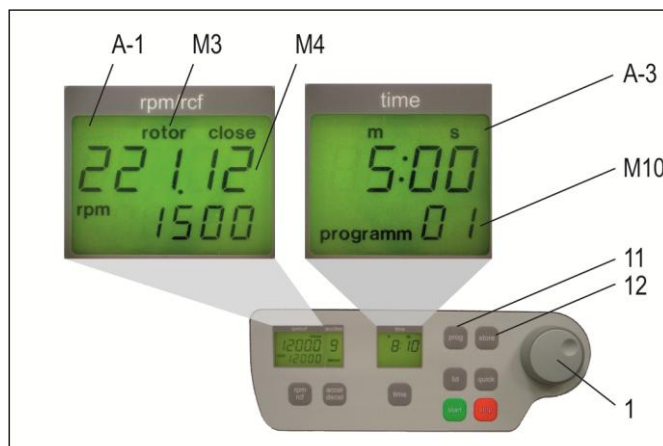

Figure 22
Put the desired rotor into the centrifuge. By pressing the key, "prog" (11), in the display "time" (A-3) appears the word "program", (see Figure 22). With the adjustable knob (1), choose the desired program number.
If a program number is already occupied, in the display "rpm/rcf" (A-1), the words "rotor" (M3) and "22x.xx" (M4) will appear, (see Figure 22). Free program numbers will appear as 0.